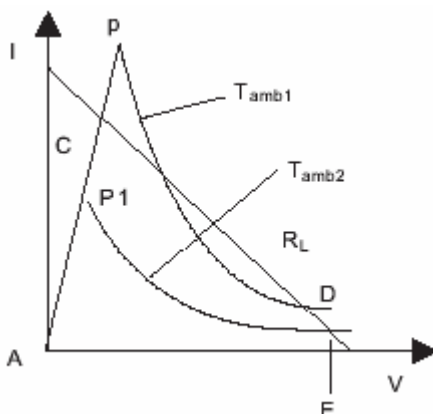

Fig.22 Over-temperature protection
- Over temperature (see Fig. 22), where the PTC thermistors with an overheating ambient temperature (T_{amb2}), so the PTC thermistors need less internal heat to reach its switch point P, so P1 moves below load-line CD.